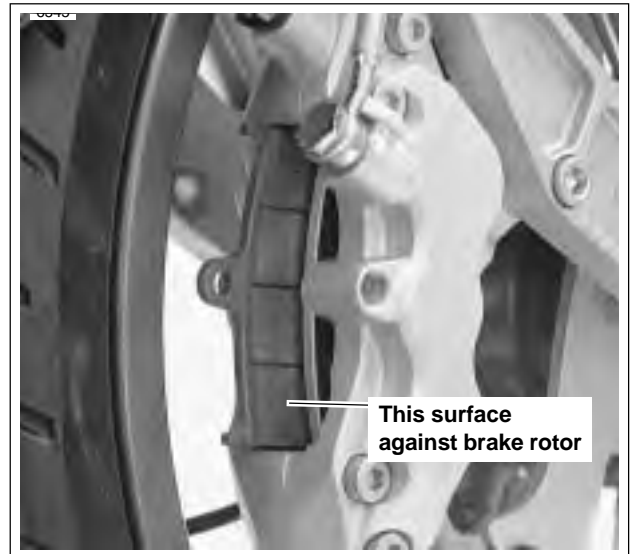

Figure 2-29. Installing Brake Pads
- See Figure 2-29. Insert brake pads from behind.